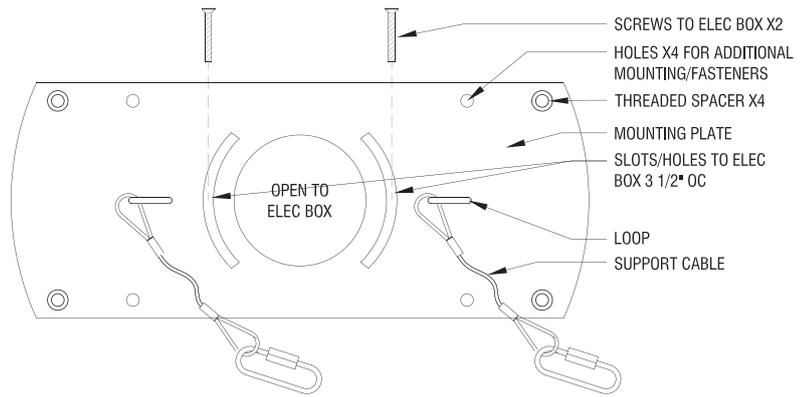

Figure 2. Install mounting plate
- 4 (Figure 2) Position the mounting plate over the recessed electrical box. The two curved slots are to fasten the mounting plate directly to the box using the holes provided in the box. Determine the final position of the fixture such that the electrical box is accessible through the central hole in the mounting plate and the curved slots align with the fastener holes of the electrical box - the mounting plate can be fastened to the electrical box through the curved slots as a mean to temporarily support the plate during installation. Mark the locations of the other four holes such that the fasteners through these holes will fasten directly to structure - **This light fixture cannot be supported solely by the electrical box nor drywall anchors and must be fastened directly to structure.**